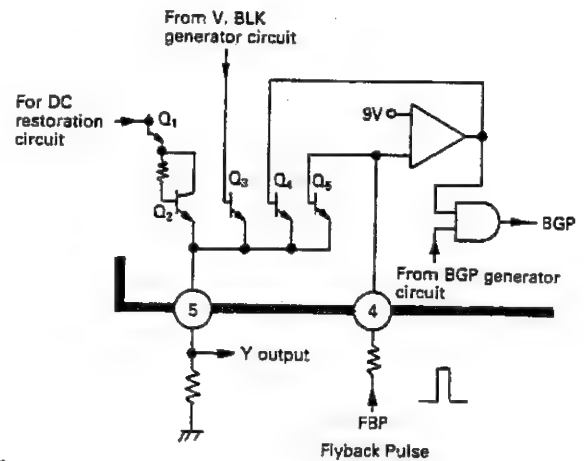

Figure 34.
The signal going out of the DC restoration circuit passes through the 2-stage transistor (Q_1 and Q_2 shown in Fig. 34) is applied to pin ⑤. At the base of Q_1 , DC voltage of the signal has the temperature characteristic of $0 V_{DE}$ and when it reaches pin ⑤, it will have the temperature characteristic of $2 V_{BE}$.